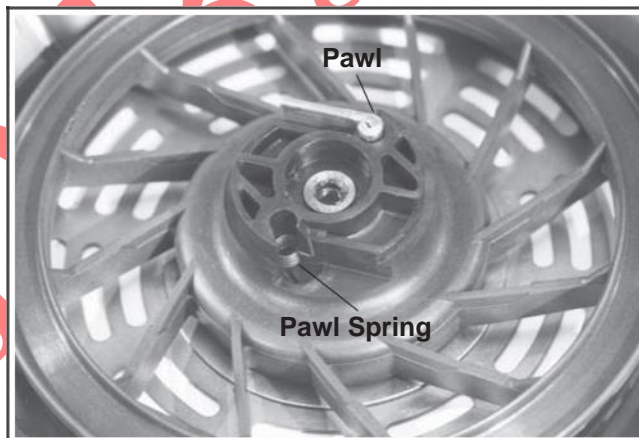

Figure 7-10. Installing Pawls and Pawl Springs.
3. Install the pawl springs and pawls into the starter pulley. See Figure 7-10.